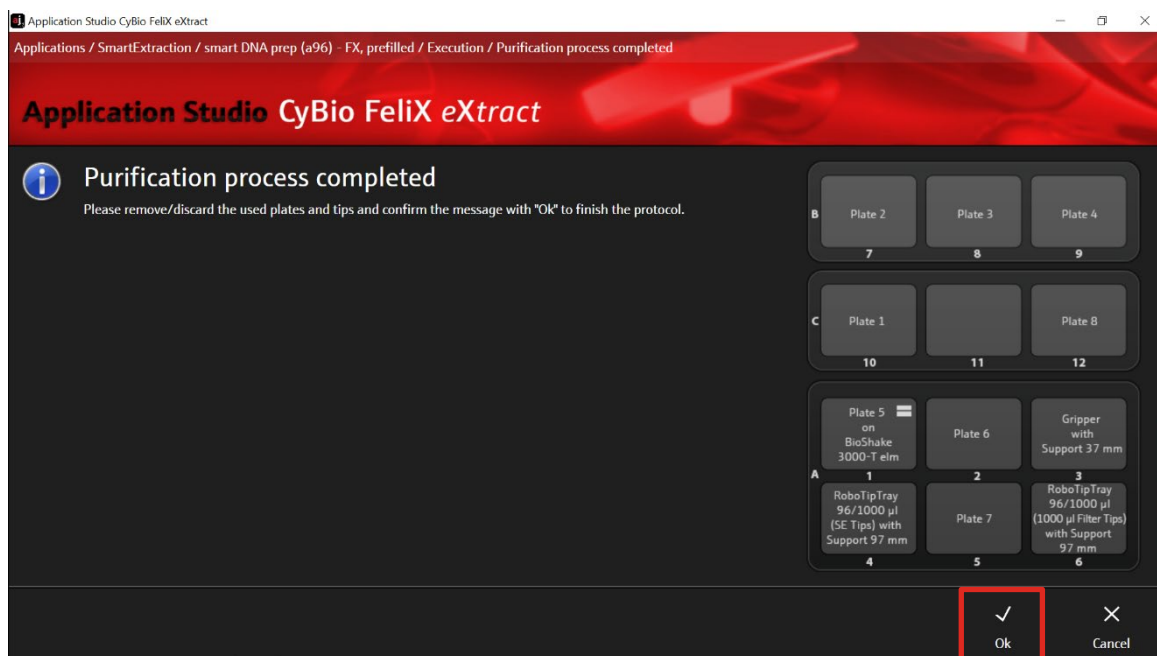

Figure 9: Purification process completed.
- The chosen protocol is performed by device. After the protocol is finished, the message "Purification process completed" is displayed. Confirm the message with "Ok" (→ see Figure 9)